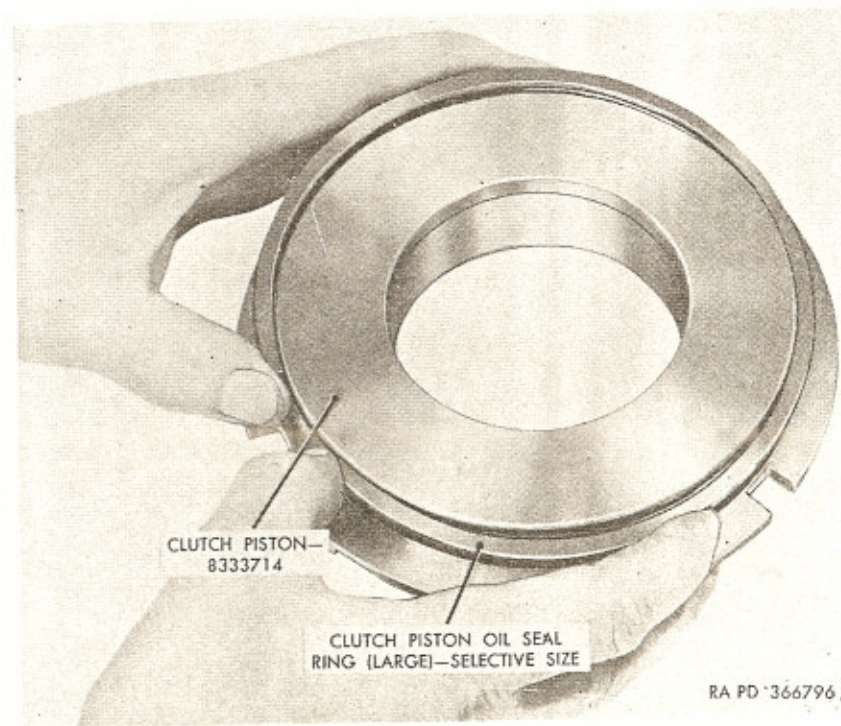

Figure 107. Removing clutch piston large oil seal ring.
f. Using fingers (fig. 107), remove clutch piston large oil seal ring (H) from groove in clutch piston.
i. Using fingers in same manner as shown in figure 107, remove the clutch piston large oil seal ring (D) from groove in clutch piston (E). Do not expand oil seal ring more than necessary for removal.